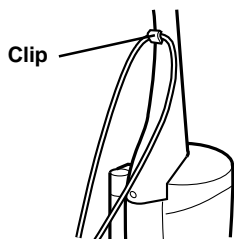

Fig.3
- 1 Insert the power cord in the clip located on handle as shown. (Fig. 3)